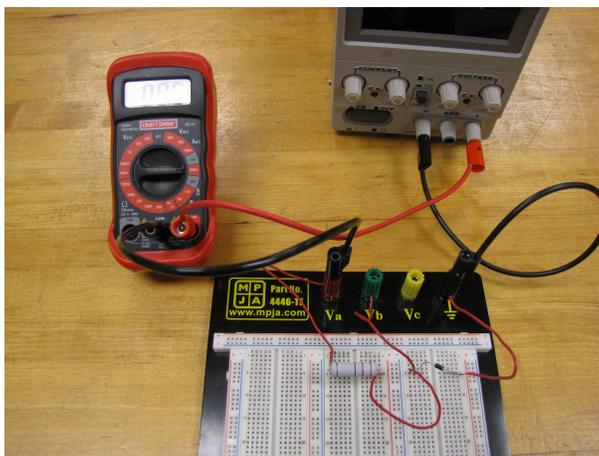

Figure 3: The circuit corresponding to the schematic in in Fig. 2 assembled on the breadboard.
2. On the breadboard assemble the circuit whose schematic is shown in Fig. 2. The ammeter, the resistor, and diode are connected in series.¹ Connect the circuit to the power supply. The circuit as assembled is shown in Fig. 3.